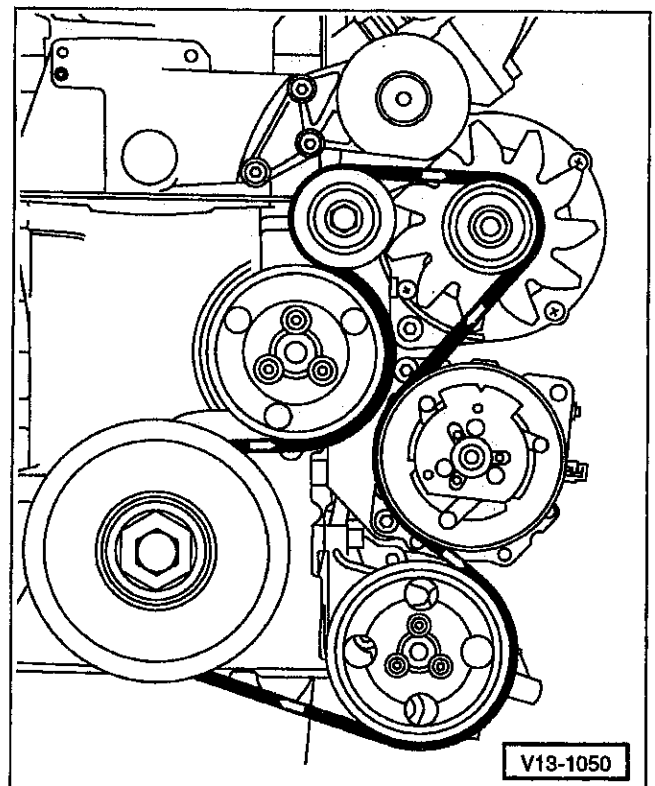

Fig. 23. Poly-ribbed belt routing on 6-cylinder engine. Arrows indicate direction of travel.
5. Install poly-ribbed belt in position. See Fig. 23.